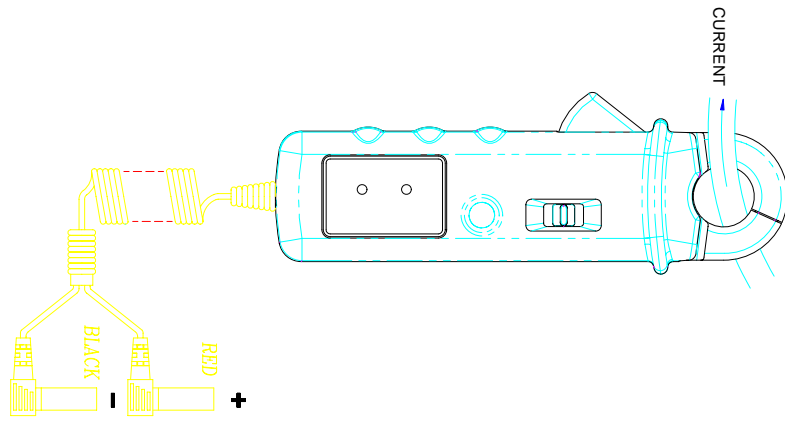

Figure 2
4. For DC measurement, output is positive in the red plug when the current flows from the lower side to the upper side of the transducer as shown in Figure 2.